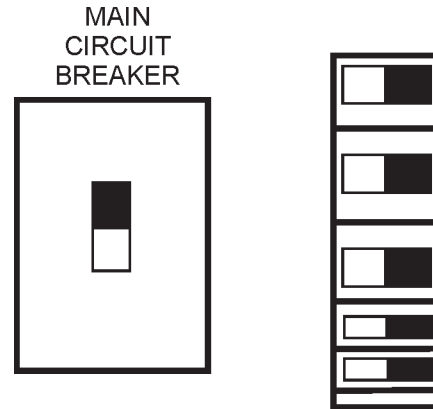

Figure 50. Main, Aux. and GFCI Circuit Breakers (ON)
17. Place the *main*, *GFCI*, and *aux.* circuit breakers in the "ON" position (Figure 50).